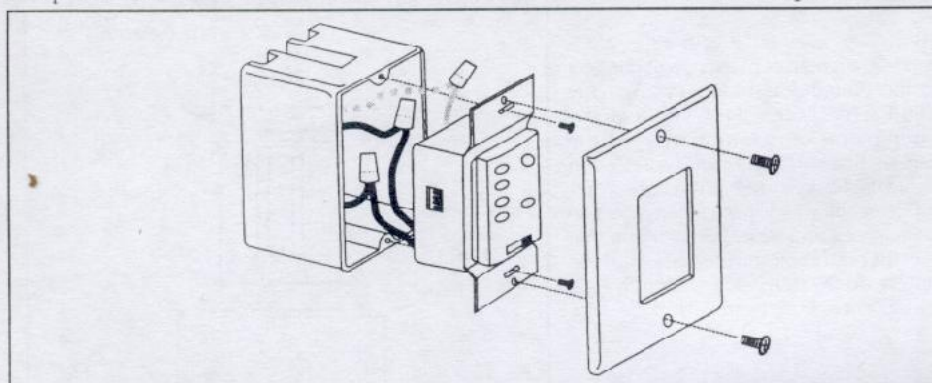

FIG 15
**Step 3.** (Fig. 15). Carefully tuck the wire connectors inside the junction box. Secure the wall transmitter with the two screws provided. Attach the decorator faceplate over the wall transmitter and secure with the two screws provided.